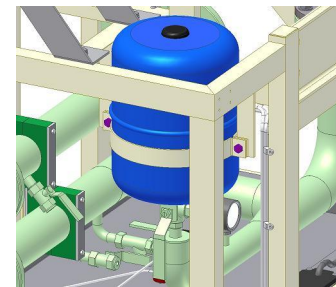

Figure 4.2-3
3. Remove the attachment clamp (around the expansion vessel, Figure 4.2-3).